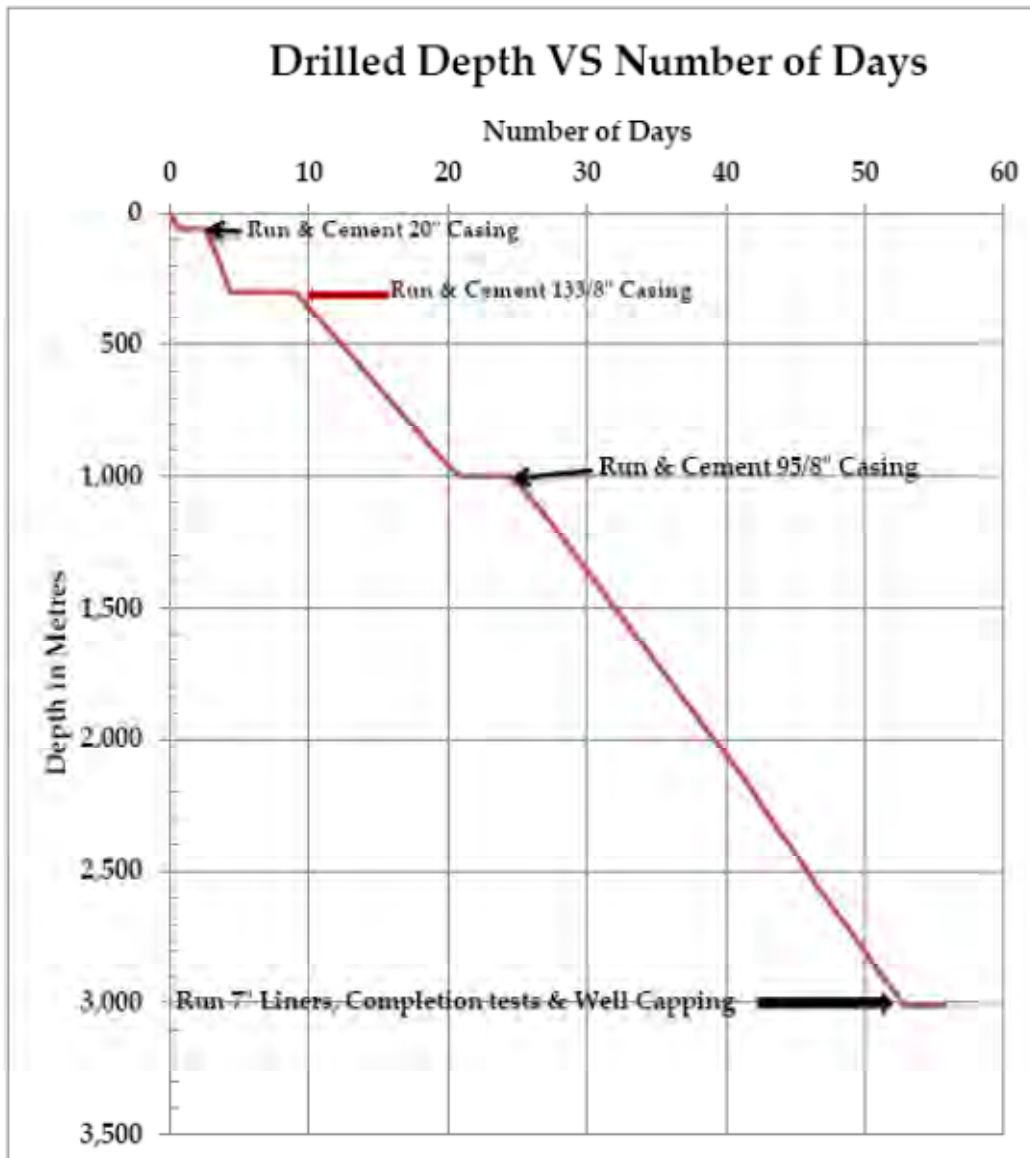

Figure 1: Estimated drilled depths against the number of days
- Drill the wells in safe productive way in the shortest time (Summary in table 1 and Figure 1 below)